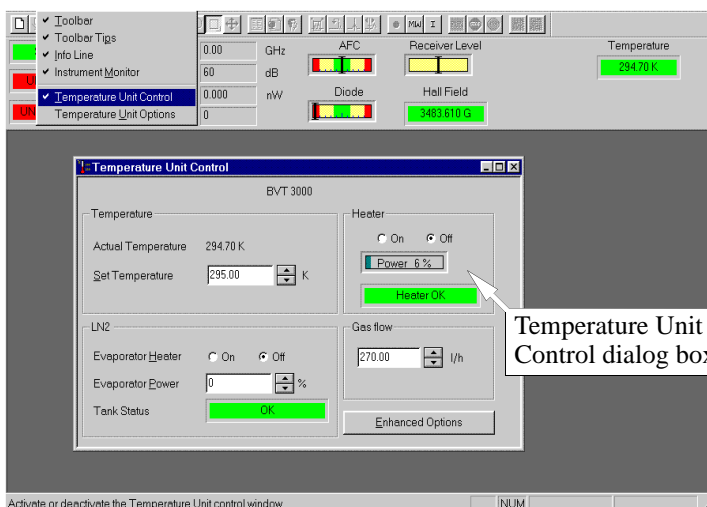

Figure 2-10 The Temperature Unit Control dialog box should appear as above.
3. **Check the ability of your ER 4141 controller to regulate temperature.** Insert an empty sample tube into the cavity’s cryostat before performing steps 4 and 5. The set temperature will display the temperature value that was entered the previous time the software was used. Enter 295 K as the **Set Temperature** and turn on the **Heater** and the **Evaporator Heater** by clicking the **On** button for each unit in the **Temperature Unit Controller** dialog box. (See Figure 2-10.) The evaporator power should be set at about 20 if you are doing experiments between 200 and 300 K. Set it at 40 or 50 if you need to use low temperatures (*i.e.*, below 150 K) for prolonged periods. See Table 2-1 for recommended power settings. Once the set temperature of 295 K has stabilized, try changing the set temperature to 250 K. You can do this either by typing in the editable box or by clicking the arrows to the right of the box. If you type the value in the editable box, you will need to click the cursor in another editable box for the set temperature to become active. Next, observe how efficiently the controller brings the temperature down to 250 K. Does it lower the temperature too slowly? Does it lower the temperature too quickly and overshoot the set temperature? After the set temperature has been reached, does it fluctuate by more than 1 degree K? If the temperature setting performance does not seem stable or respond satisfactorily, contact your Bruker representative.